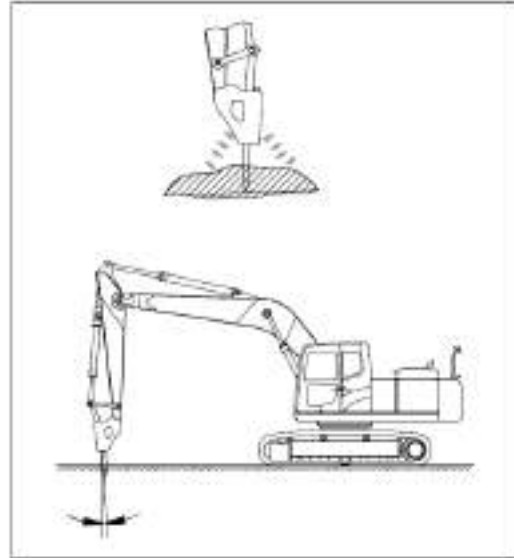

Figure 5-11 Precautions for use of hydraulic hammer (III)
d). The penetration direction of chisel and the direction of breaker body will deviate from the straight line they were in at first. Therefore, you should keep adjusting the bucket cylinder to keep both in a straight line (Figure 5-11).